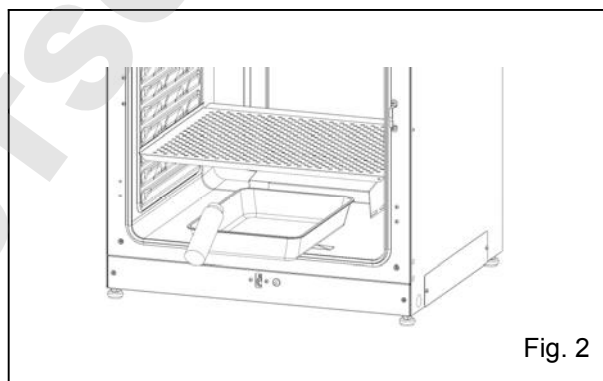

Fig. 2
4. Return the humidifying pan to the chamber and pour sterile distilled water (approx. 1.5 L, preheated to 37 °C). (Fig. 2)